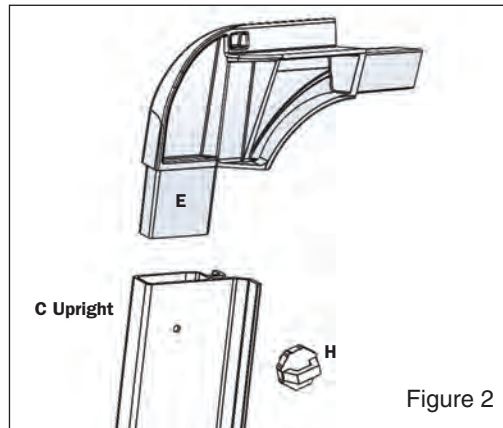
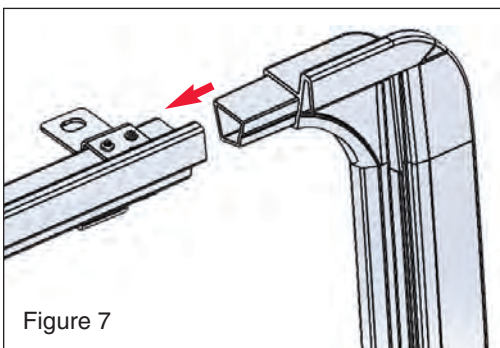

Figure 2
Figure 7
Screw (G). Next, insert Left Hand Upper Corner Plastic (E) to the Left Hand Upright (C) and secure the pieces with an Upright Knob (H). Repeat to Join the Right Hand Upper Corner Plastic (F) to Right Hand Upright (D) and secure the pieces with the other Upright Knob (H). (See FIG 2)
Insert the completed Left Upright Assembly in Figure 2 into the Left Door Surround Assembly completed in Figure 8. (See FIG 7) Repeat this procedure for the Right Side.